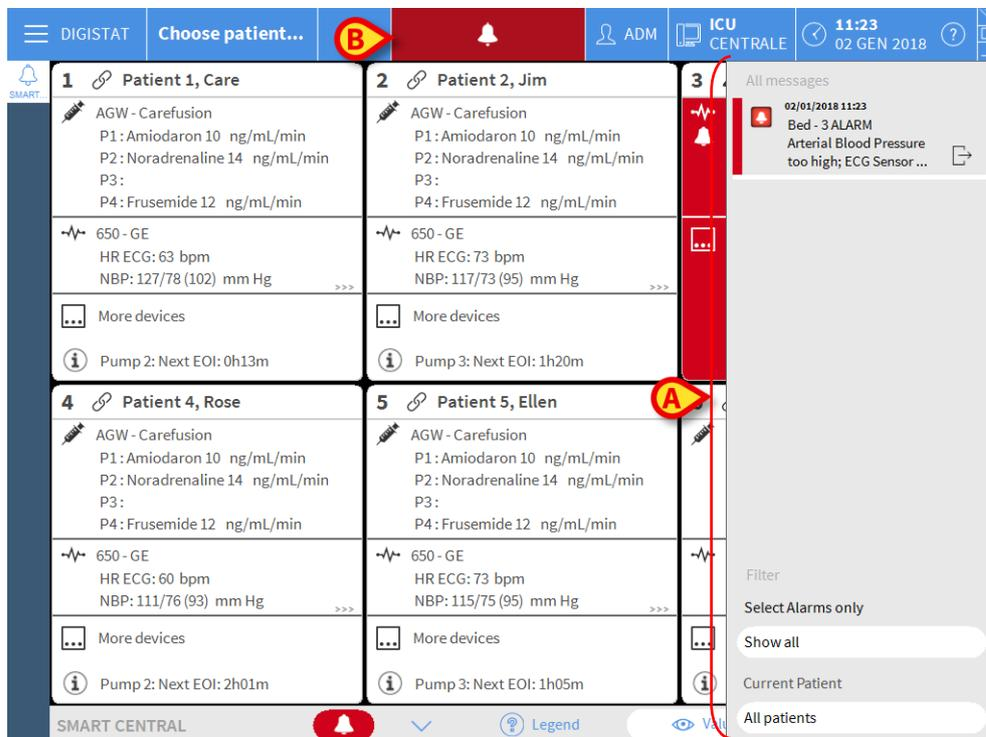

Fig 75
A notification area is displayed on the right of the Smart Central screen, reporting various notifications sent by the connected devices (Fig 75 A).
- Only visible after user click on the DIGISTAT® button on Control Bar (Fig 75 **B**).